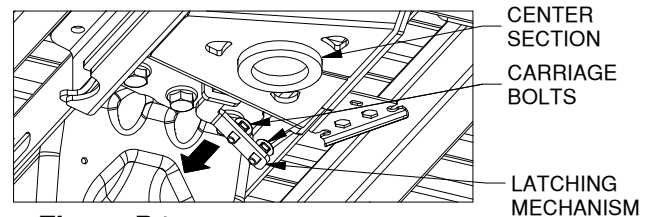

Figure D1: Looking up at center section.
1. **Install bolts.** Retract the latching mechanism by pulling on the tab with the square holes and pushing it toward the cab. From the top down, insert a 3/8 carriage bolt in each of the square holes in the latching mechanism, see figure D1.